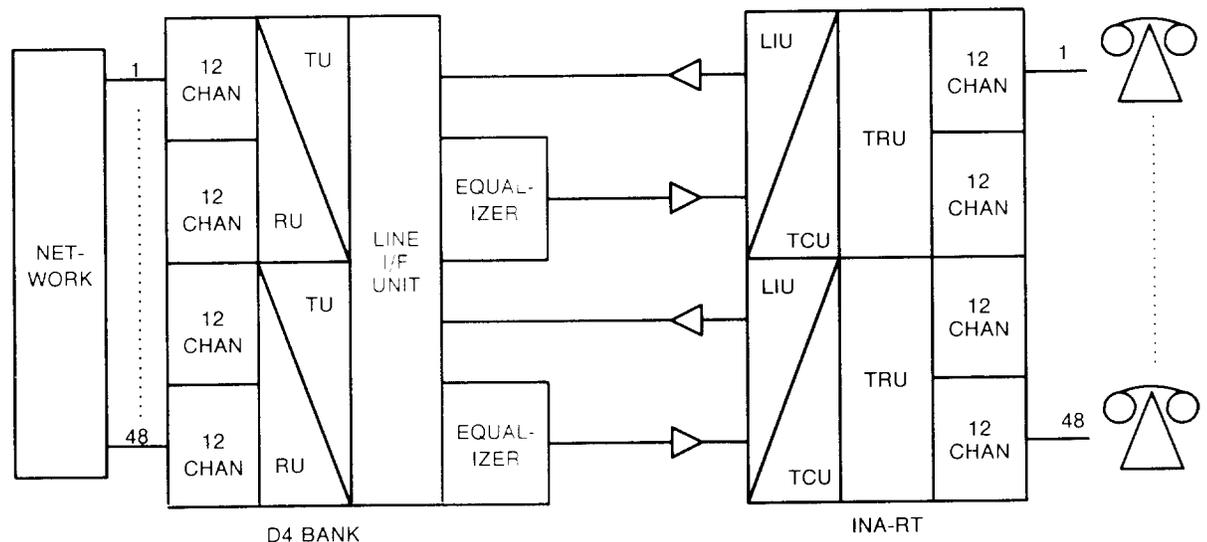

Figure 6 - Mode III INA-RT application
3.12 The INA-RT Mode III is recommended for banks with a large percentage of single-channel special-service channel units. Dual channel 2-wire channel units may also be used (refer to Section 4). Mode III operation offers a 2:1 space saving advantage as compared to D4 (see Figure 6). This mode is optimized for single-channel channel units to save facility costs.